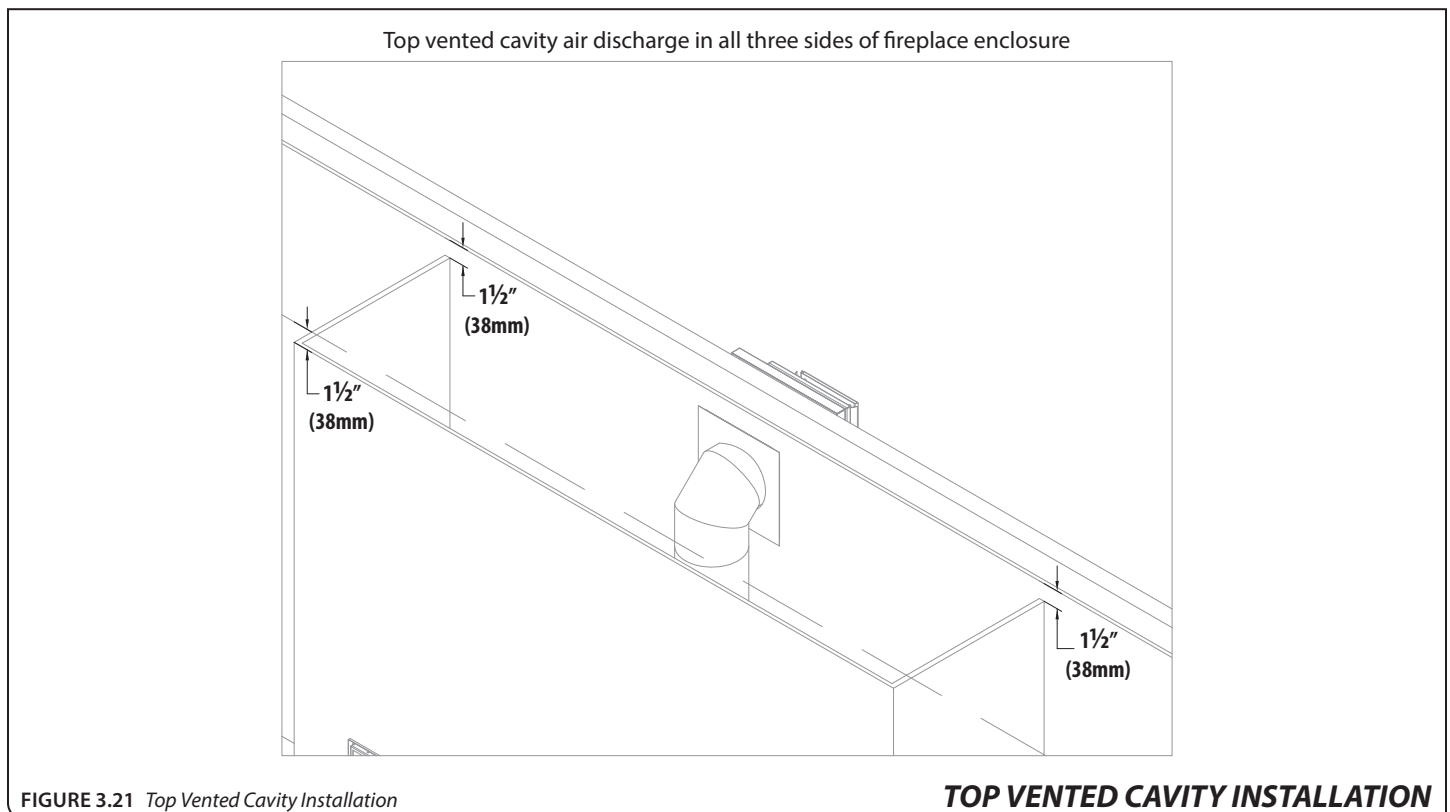

FIGURE 3.21 Top Vented Cavity Installation
- **FIGURE 3.21** shows the minimum 1-1/2" (38mm) clearance from the fireplace enclosure top to the ceiling in all three sides of the enclosure.